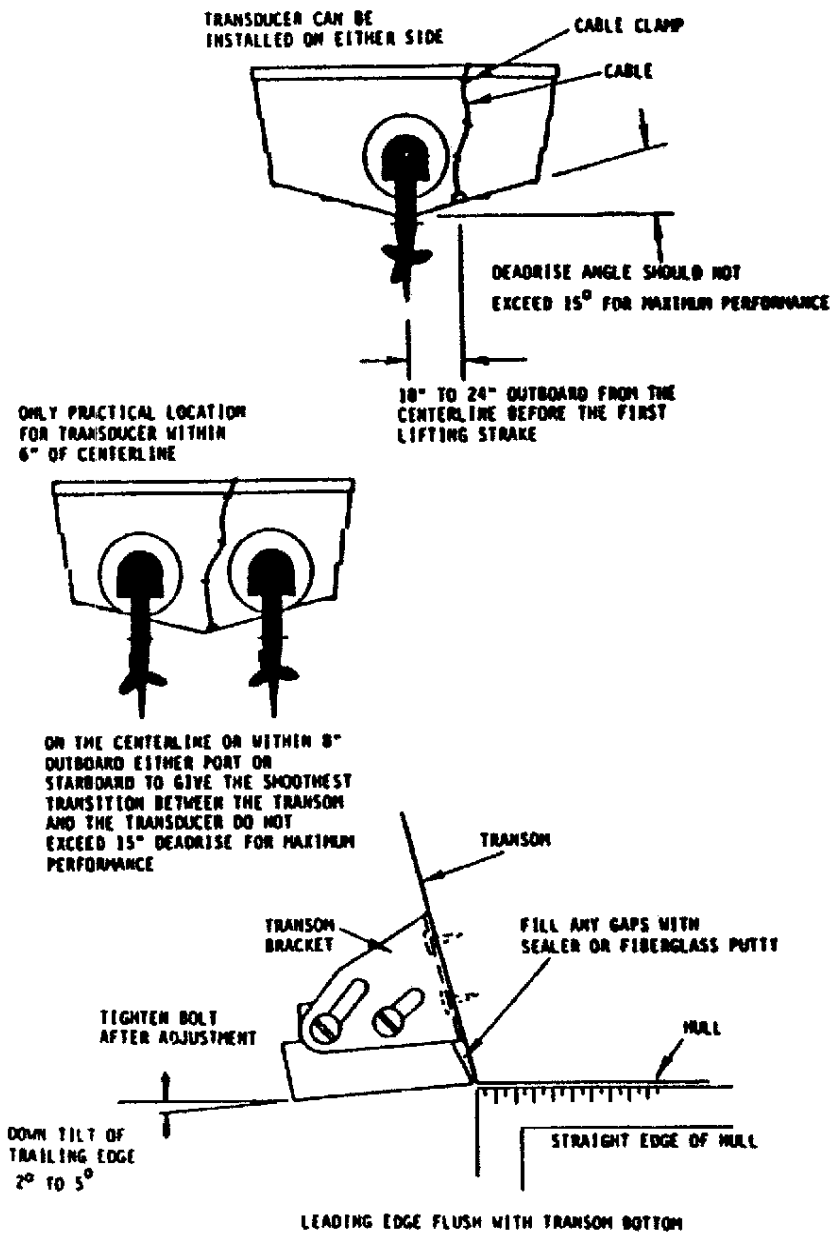

Figure 5. Transducer and Cable Mounting
3. Position transducer per Figure 5 and tighten nuts and screws.